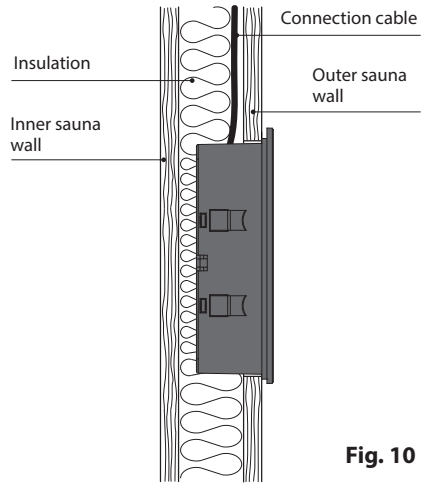

Fig. 10
6. The connection cable may be laid only between the outer sauna wall and insulation (fig. 10).